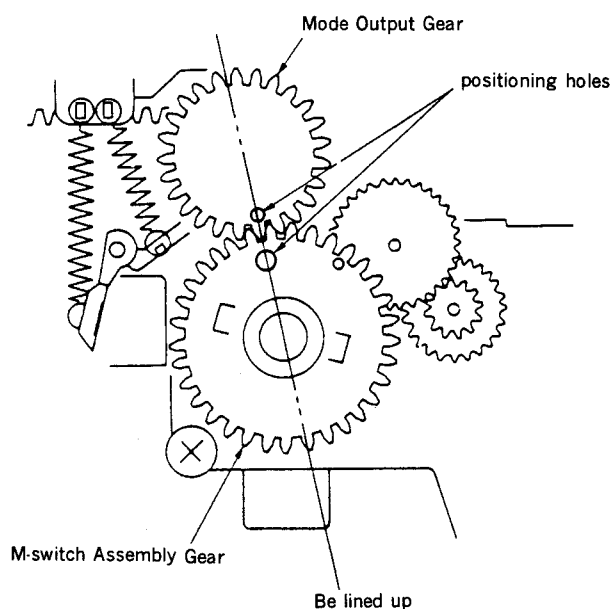

Fig. 4
- (6) Install the Mode Output Gear so that the center of the M-switch Assembly Gear and the two positioning holes are lined up. (fig. 4)
- (7) Install the stopper washer to the shaft of the Mode Output Gear.
- (8) Press the M-mode select button of the Mode Selector and set to the **LOADING/UNLOADING** mode.
- (9) Assemble the parts with Removal Steps (1) to (7) in reverse order.
- (3) Install the Hard Brake S and hook the tension spring to it.
- (4) Smear grease to the Pinch Press Lever Assembly. (fig. 4)
- (5) Apply a half drop of oil to the part under the groove of Pinch Press Lever Assembly's shaft.
- (6) Assemble the parts with Removal Steps (16) to (18) and (20) in reverse order.
- (7) Hook the two tension springs to the REW Brake Assembly and B Release Slider.